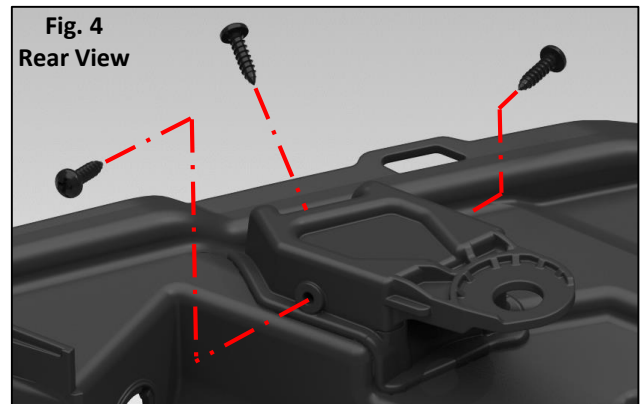

Fig. 4
4. Install: Install the prepared tab(s) ensuring a flush fit to the housing **Fig. 4**. Next, drive the 5/8" screw at the location marked **(A1)**, followed by locations marked **(A)**, while holding parts firmly together. **APPLY GLUE TO SCREW THREADS BEFORE DRIVING.** Do not overtighten screws. Allow the glue to cure for approximately 30 minutes before installing the repaired headlight on the vehicle.